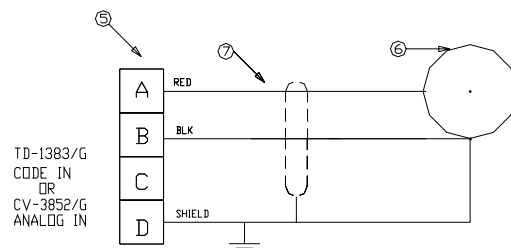

FIG. 2 NOTE 4
- IF FURTHER DETAILS ARE REQUIRED SEE MB 23-33 (4).
- IF FURTHER DETAILS ARE REQUIRED SEE MB 23-33 (5).
- SEE FIG 2 FOR PINNING DETAILS OF BNC CONNECTORS AT J1 THRU J3.
- WHEN TD-1383/G IS NOT PART OF THE SYSTEM, TIME SOURCE INPUTS ARE CONNECTED DIRECTLY TO CV-3852/G USING BCD CABLE, FIGURE 5, AND TWO TIME CODE CABLES FOR ANALOG INPUTS, FIGURE 2.
CHANGED FIG 2,3 AND 4,